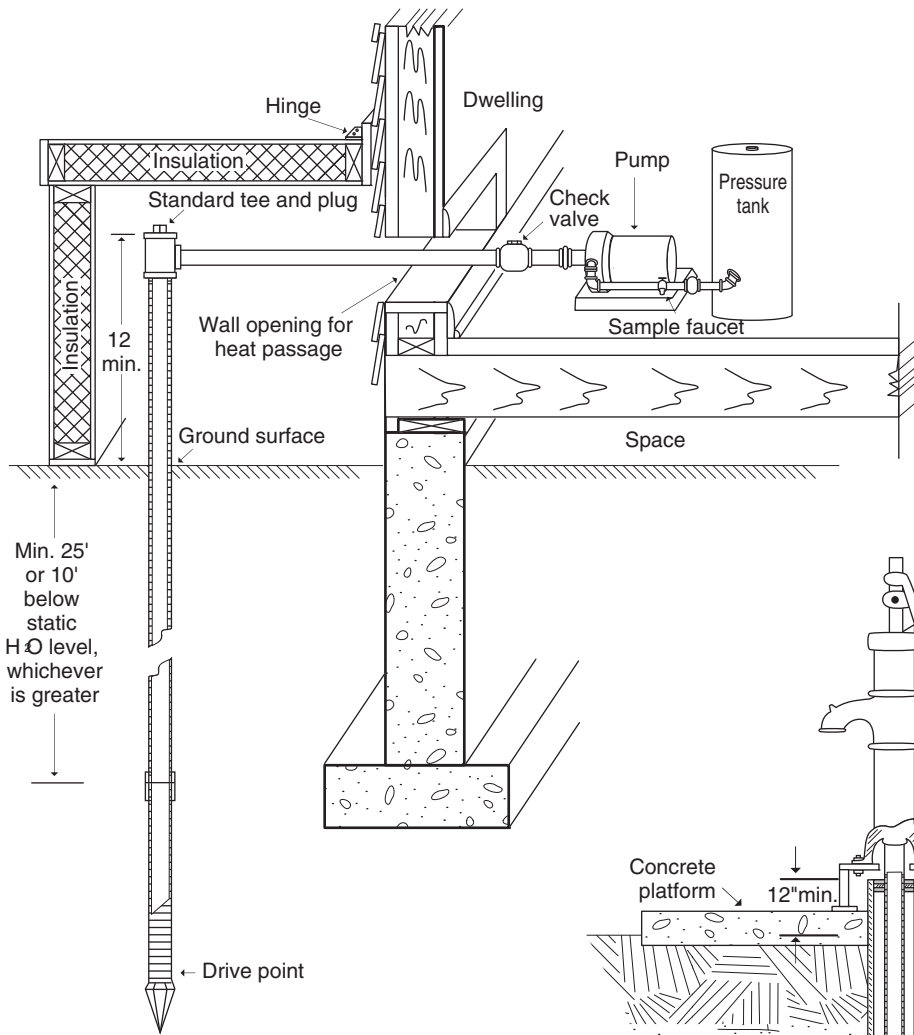

Figure 6.
- ▼ Outside, protected with an insulated structure (*Figure 6*).